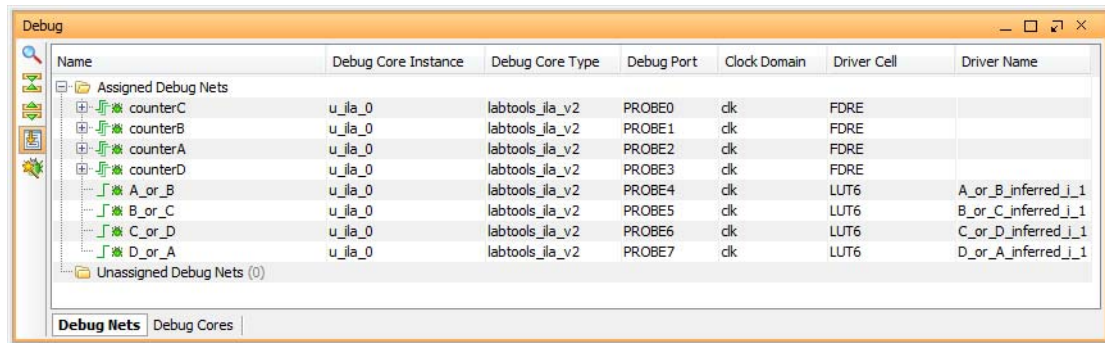

Figure 4-3: Assigned Debug Nets
8. The debug nets are now assigned to the ILA v2.1 debug core, as shown in Figure 4-3.